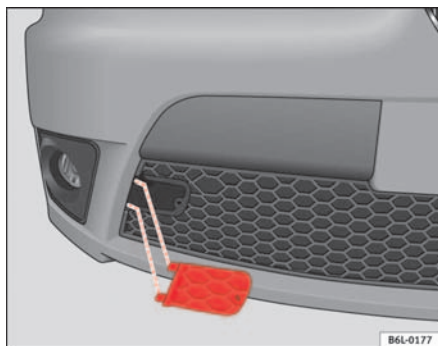

Fig. 173 Eye cover in the lower front grille.
- Remove the cover freeing the two side tabs ⇒ fig. 173. ■